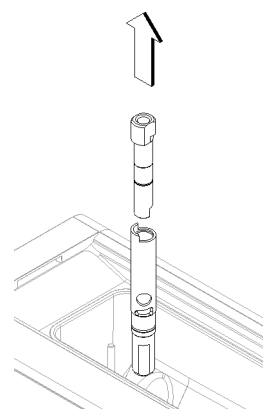

figure 20
and (see figure 20).
- 4 Reassemble the tap assembly in the reverse order to that illustrated in Figure 20 and reposition it in its seat.